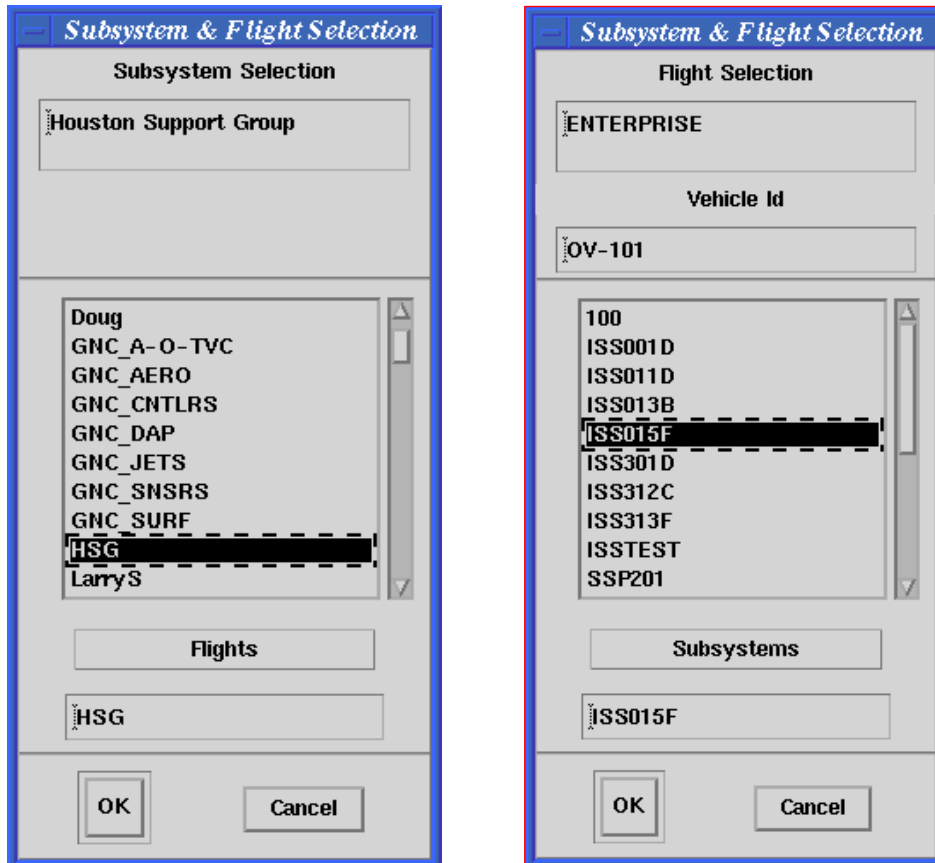

Figure 4-16. Flight selection screen examples
3. Select **SUBSYS** (second item from left) and choose **HSG** (Figure 4-16). Click **OK**.
4. Next, select the proper flight ID by clicking **FLIGHT** from the ODRC Interface (third from left), scrolling to the proper ID, highlighting it, and clicking **OK**. If the flight ID is unknown, call ext. 3ODRC. See Figure 4-16 to see the flight selection screen.
5. Notice that both the subsys and flight selections changed in the ODRC Interface screen (see Figure 4-16).